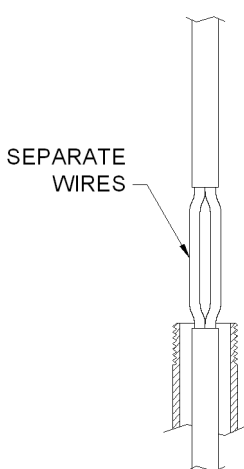

Figure 7
4. Separate the high voltage wires as shown in **Figure 7**.
6. Install the packing fiber generally following the “Y” sealing fitting manufactures; instructions while maintaining the high voltage wire separation. Refer to **Figures 7** and 8.